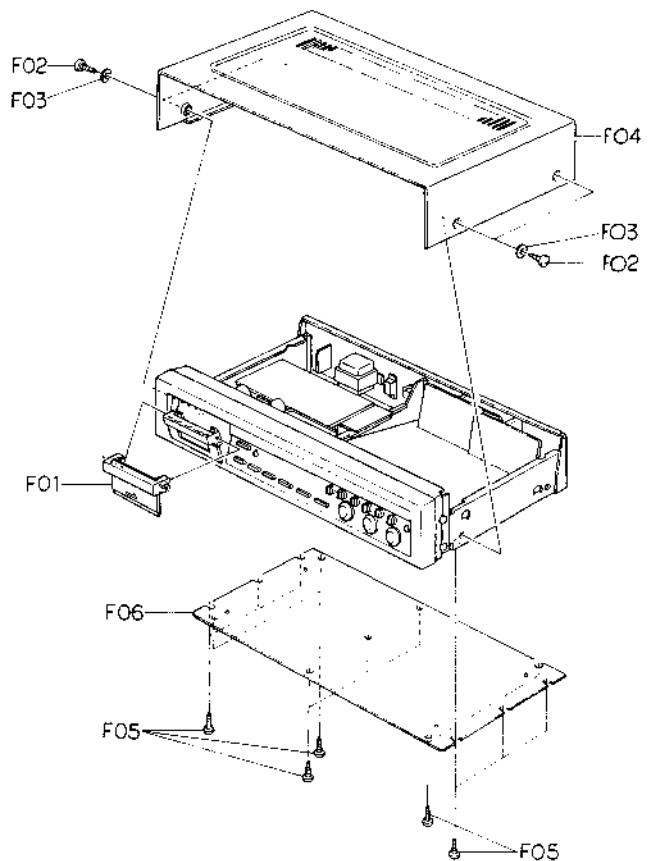

Fig. 2.1.2 Serial Nos.: A12101001 – A12102101
- (1) Refer to Fig. 2.1.2. Remove Front Panel Ass'y referring to item 2.4.
- (2) Remove F03, then disassemble F04 (Playback Dolby